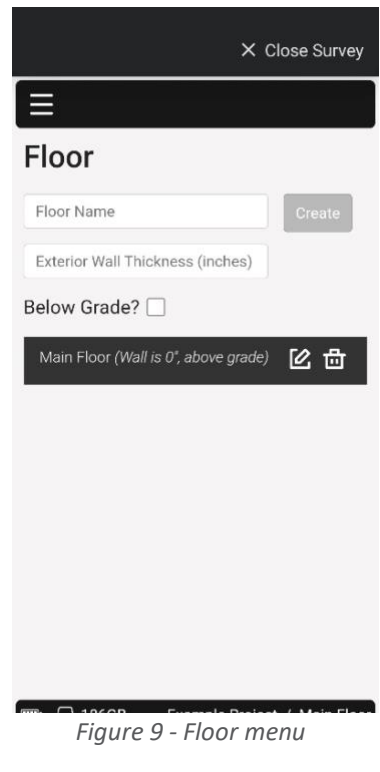

Figure 9 - Floor menu
1. Tap in the blank field on the floor menu and select a pre-defined option or type one of your preference. (see Figure 9).